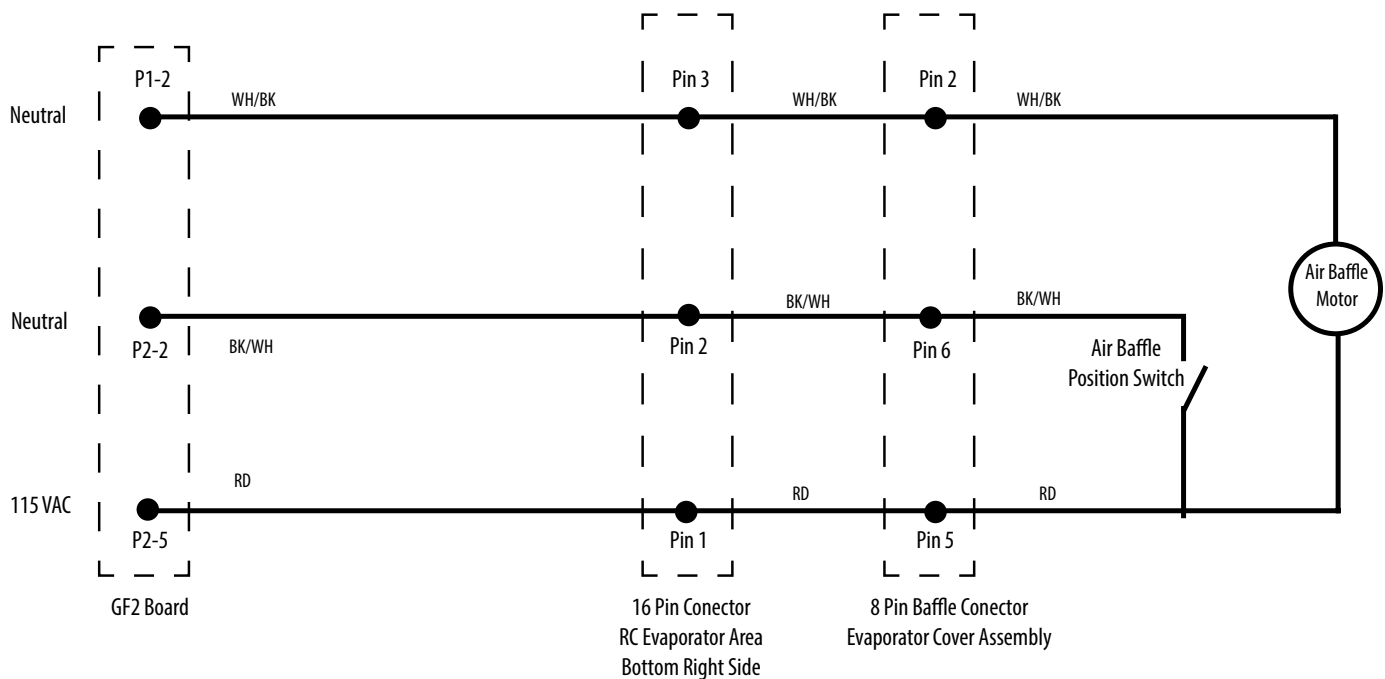

FIGURE 16: Air Baffle Electrical Diagram
- Check all wiring connectors tight (FIGURE 16).